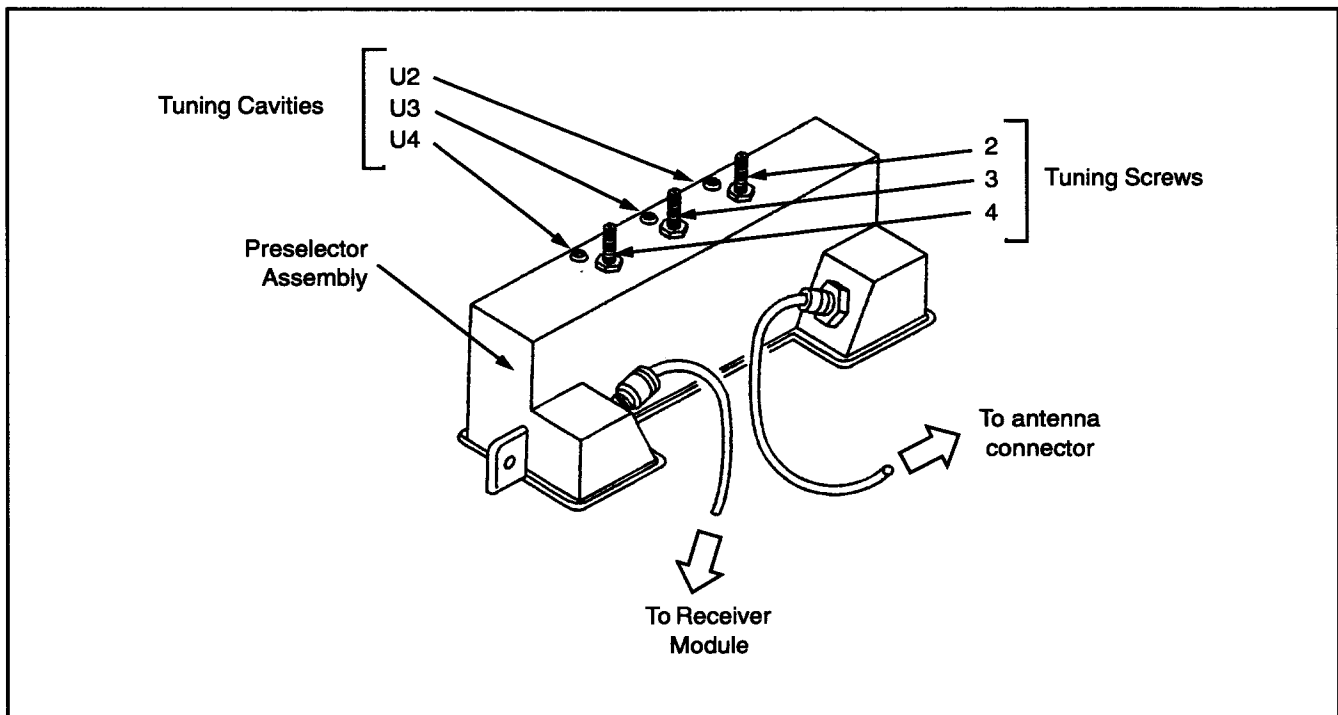

Figure 9. Location of Tuning Screws and Cavity Probe Holes
3. Detune the preselector by turning tuning screws (see Figure 9) 3 and 4 clockwise until they bottom out. Be careful not to apply more than 0.34Nm (3 in-lb) of torque to prevent warping preselector cover and housing.
3. Insert tuning probe into cavity U2 (refer to Figure 9) and adjust tuning screw 2 for a **PEAK**.